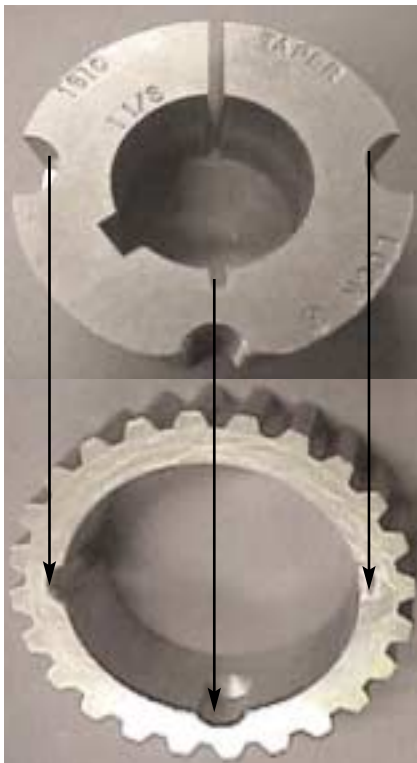

Figure 1
1. Align the three (3) half-holes of the bushing with the holes of the hub. See Figure 1.